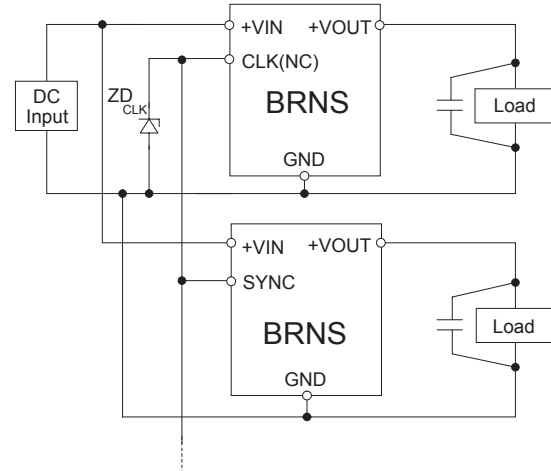

Fig.4.12 Example of CLK pin connection.
- As shown in Fig.4.12, frequency synchronization is possible without using an outside clock.